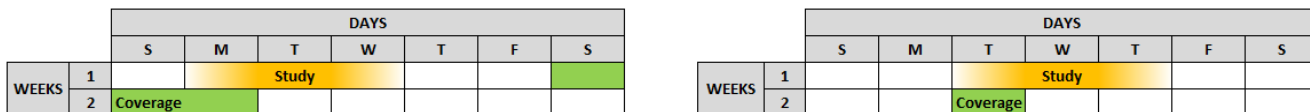

Figure 6: Sample 3 Day AA Process Timeline
This process repeats daily on business days14 with Study and Coverage Periods as identified in Figure 6 below.
- Study Period begins 16:00:00 EST on business days and ends at 15:59:59 EST, 2 business days later as shown in Figure 6.
- Coverage Period begins 00:00:00 EST on the 5th business day after the beginning of the Study Period and ends at 23:59:59 EST on the 5th business day after the beginning of the Study Period as shown in Figure 6.